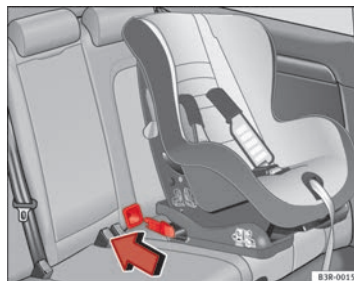

Fig. 33 The ISOFIX child seat anchors slide along the fitted plastic guides until secured in the vehicle's ISOFIX anchorages
- Slide the child seat anchorages along the plastic guides until secured in the vehicle's ISOFIX rings (when correctly closed, you will hear a “click”). The seat should also have a visual indicator to confirm it is correctly secured ⇒ fig. 33.